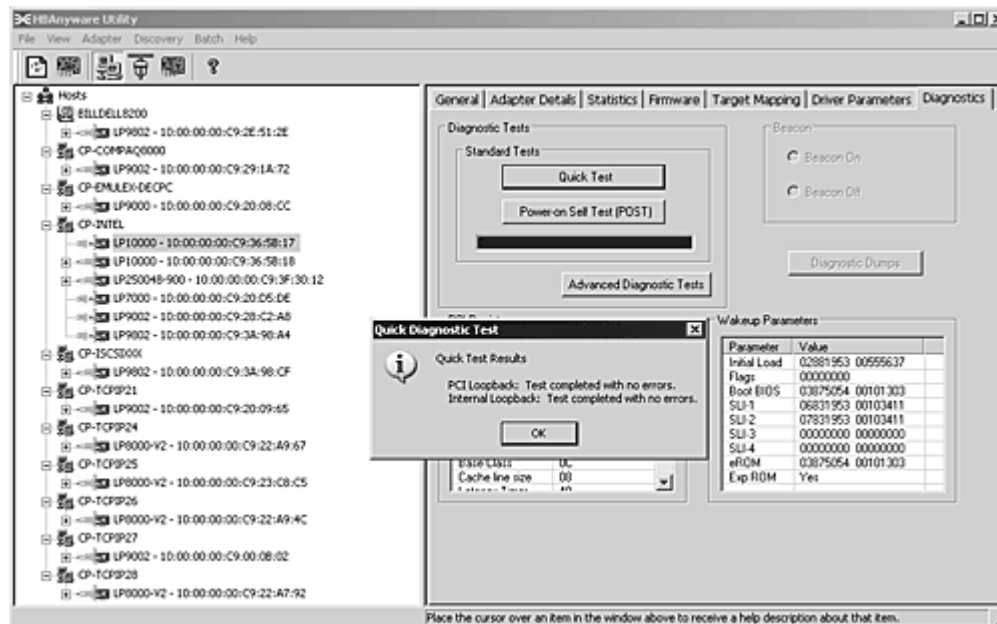

Figure 60: HBAnyware Utility, Quick Diagnostics Test Results
3. Select the Diagnostics tab and click **Power-on Self Test (POST)**. A warning dialog box appears (see Figure 60).